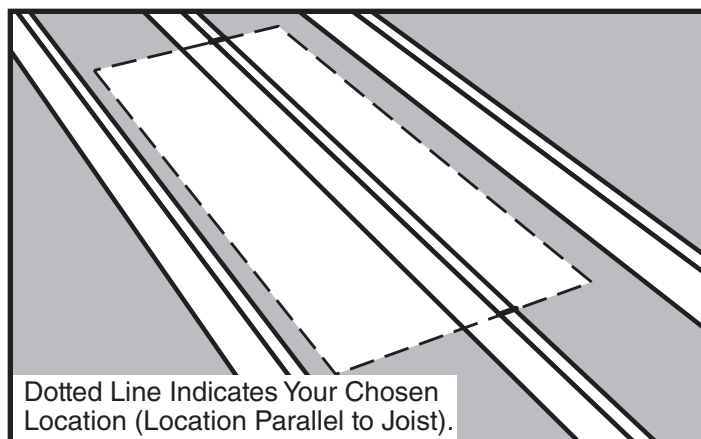

Figure 7
(A) If the chosen location is parallel to the joists, mark the rough opening length on top of the joists (See Figure 7).